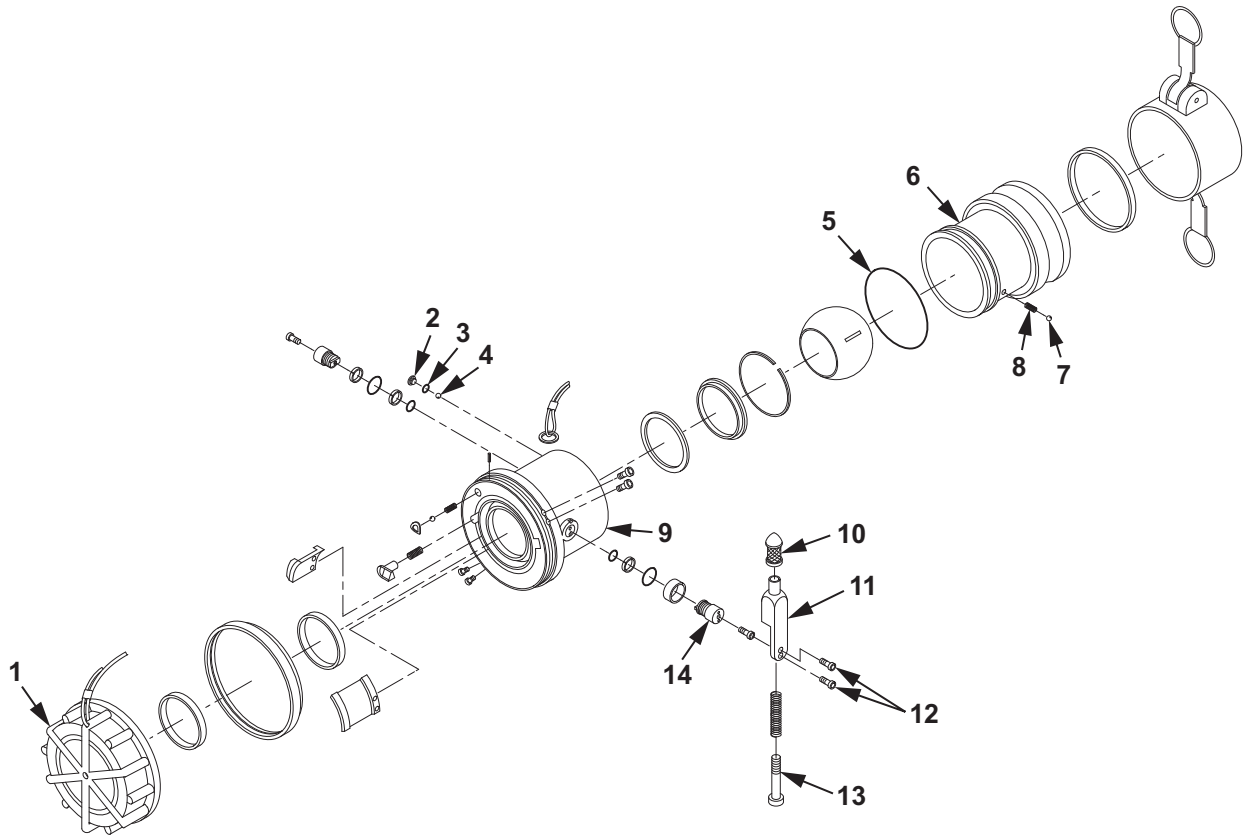

Figure 4. 4 In. Male Camlock X 3 In. Valved Dry-Break Adapter Assembly.
31. Install knob (Figure 4, Item 10) on control arm (Figure 4, Item 11).
32. Tighten screw (Figure 4, Item 13) hand tight.
33. Position control arm (Figure 4, Item 11) with holes lined up on upper shaft (Figure 4, Item 14).
34. Install screws (Figure 4, Item 12) through control arm (Figure 4, Item 11) and into upper shaft (Figure 4, Item 14).
35. Using torque wrench and screwdriver bit, torque screws (Figure 4, Item 12) to 8 in. lb (0.90 N•m).
36. Lightly lubricate new O-ring (Figure 4, Item 5) with petrolatum and install new O-ring (Figure 4, Item 5) in outer groove of inlet adapter (Figure 4, Item 6).
When installing inlet adapter (Figure 4, Item 6), ensure ball bearing (Figure 4, Item 7) and spring (Figure 4, Item 8) are in place.
37. Install inlet adapter (Figure 4, Item 6) into coupling (Figure 4, Item 9).
Ensure all 41 ball bearings (Figure 4, Item 4) are accounted for before assembly.
38. Hold coupling (Figure 4, Item 9) over cleaning cloth with screw hole up, insert all 41 ball bearings (Figure 4, Item 4) into hole.
39. Lightly lubricate new O-ring (Figure 4, Item 3) with petrolatum and install new O-ring (Figure 4, Item 3) on screw (Figure 4, Item 2).
40. Install screw (Figure 4, Item 2) into coupling (Figure 4, Item 9).
41. Using torque wrench and screwdriver bit, torque screw (Figure 4, Item 2) to 72–80 in. lb (8.13–9.04 N•m).
2. While the couplings are connected, rotate control arm (Figure 4, Item 11) to the open position and try to disconnect the couplings by rotating in a counterclockwise direction. If the couplings disconnect, then repair of the valved dry-break coupling assembly is required.
3. Close the control arm (Figure 4, Item 11) and disconnect the valved dry-break coupling assemblies by rotating the couplings in a counterclockwise direction.
6. With the control arm (Figure 4, Item 11) in the open position, apply pressure of 5 PSI (34.47 kPa) to the repaired valved dry-break coupling assembly.
10. Close the control arm (Figure 4, Item 11) and disconnect the repaired valved dry-break coupling assembly from the similar valved dry-break coupling assembly by rotating the couplings in a counterclockwise direction.
12. With the control arm (Figure 4, Item 11) in the closed position, apply pressure of 5 PSI (34.47 kPa) to the repaired valved dry-break coupling assembly.
15. Reduce pressure from the test system, remove repaired valved dry-break coupling assembly from the test system and install dust cap (Figure 4, Item 1).